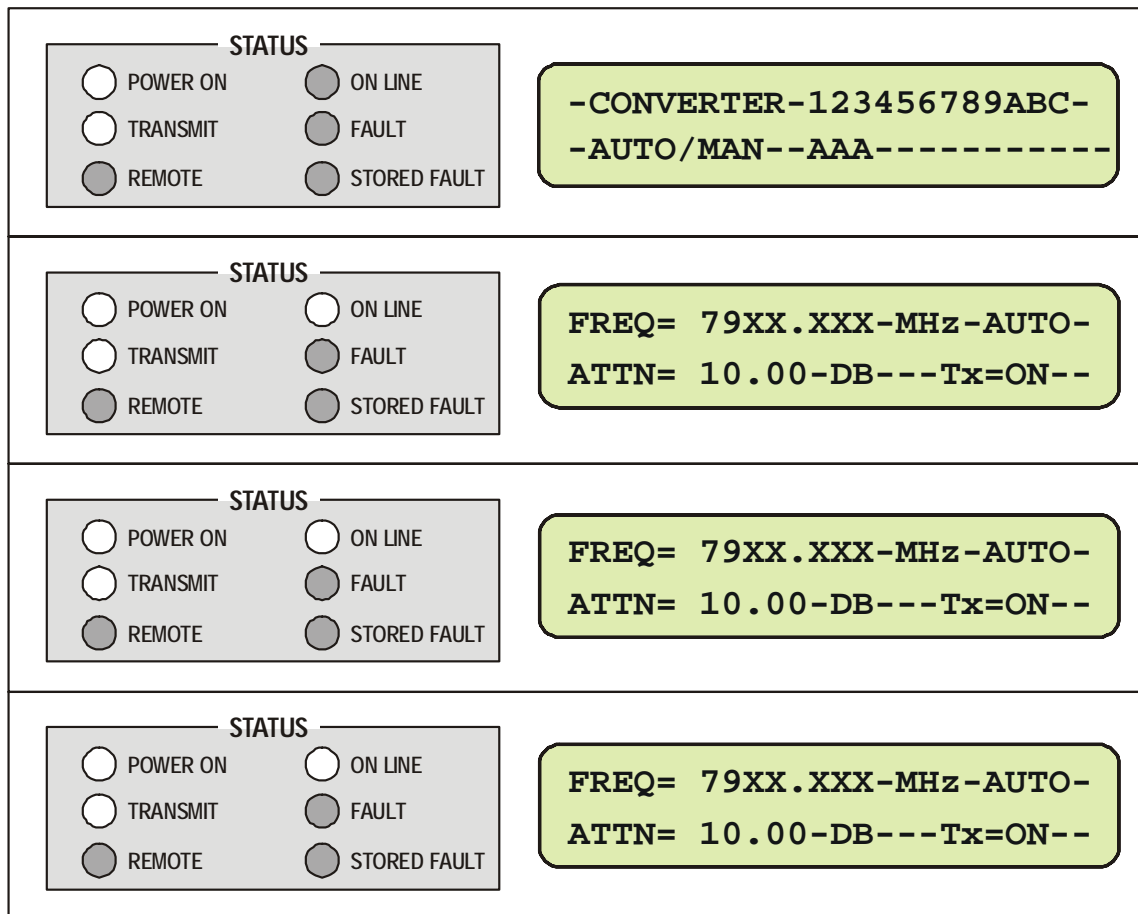

Figure 29. 1:3 System in AUTO Redundant Mode
Figure 29 shows the system configured for automatic (A) operation. In this mode, failure of an online converter will automatically cause a switchover to the redundant unit to occur. In the field, the simplest way to test this mode is to turn off an online unit. The AUTO/MANUAL selection is made in the converter. The online units will report their status as show in Figure 29.